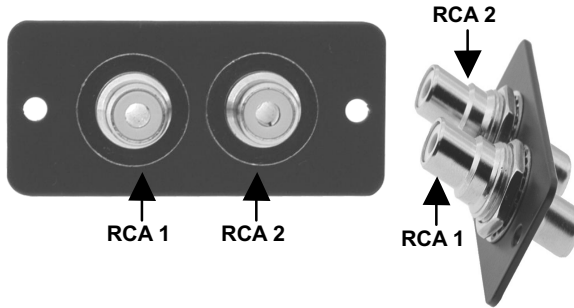

Figure 9: WRR Double RCA Connector Module Device
- **WRR** (a double RCA connector module, as Figure 9 illustrates)